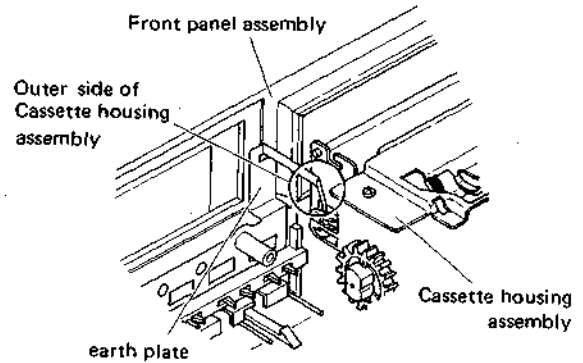

Fig. 1-1-2
- 4) Reassemble the front panel assembly so that earth plate on the rear of front panel assembly becomes outer side of the cassette housing assembly. (Refer to Fig. 1-1-2)